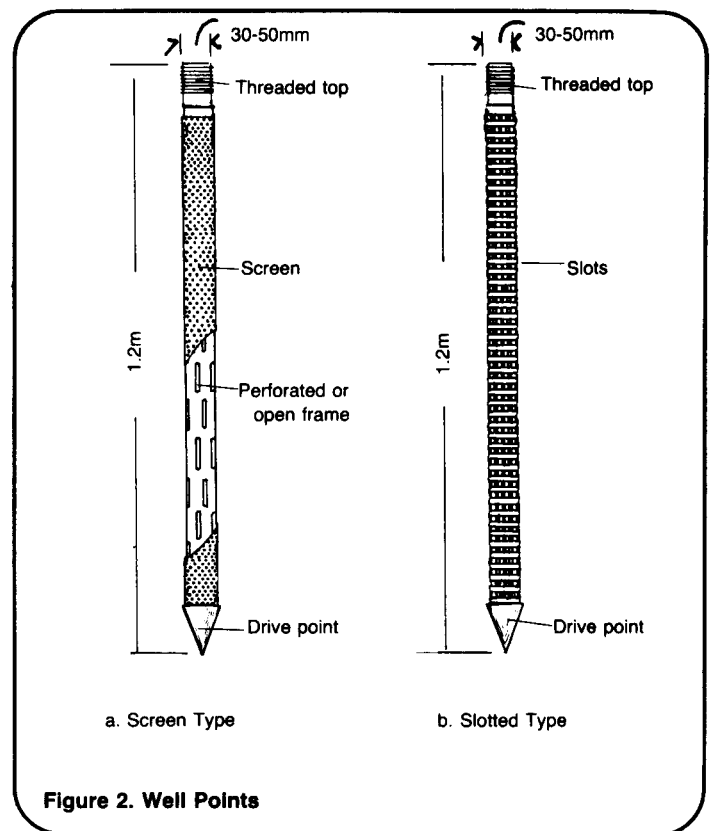

Figure 2. Well Points
2. A design drawing of the well point similar to Figure 2.